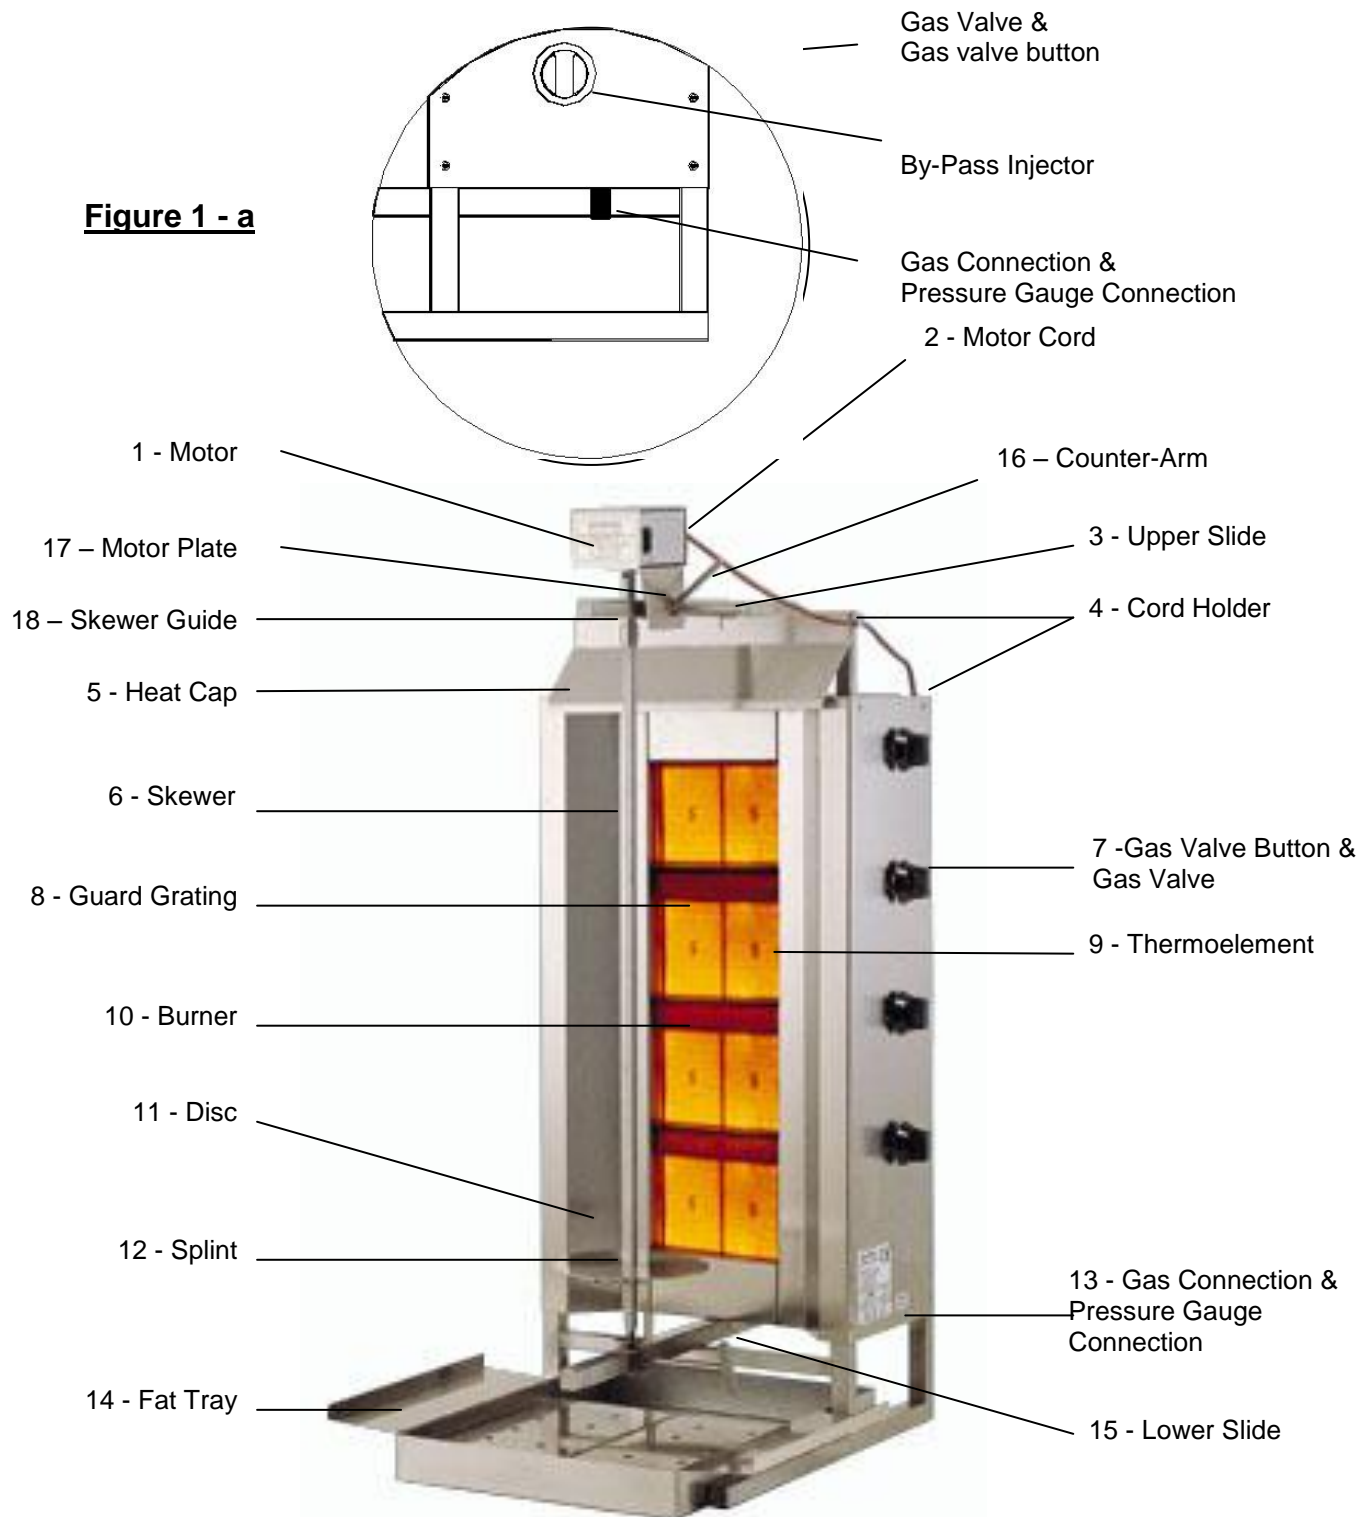

Figure 1 - b
* In döner-grillmachine with motor on top, use the Heat Cap (5) being an original part of the appliance, in order to protect the motor from excessive heat during operation. (Figure 1-b)
3.1.1 – Motor on Top Type Döner-Grillmachine (Figure 1 – b)
After installing the appliance in compliance with the regulations mentioned in the User's Manual of the motor on top type of döner-grillmachines the fat tray and the motor (Figure 1–b) are inserted, making the appliance ready for use. In these types of appliances, unscrew upper and lower slide arms for the meat grilling. The distance between the skewer (6) with meat on, and the burners is adjusted with the help of these arms.
(Figure 1-b)**